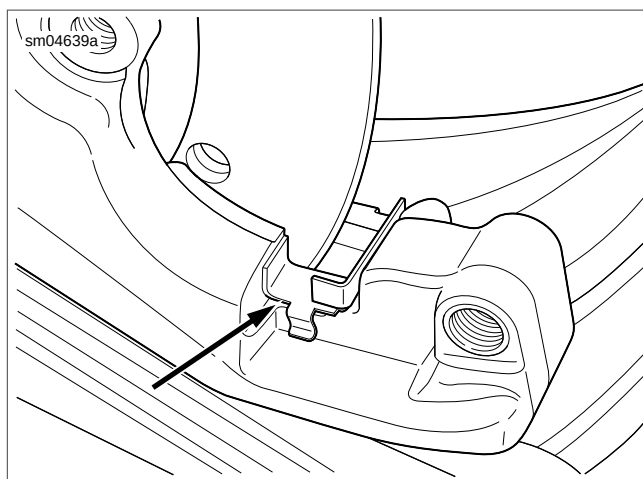

Figure 1-32. Torque Clip
9. See Figure 1-32. Inspect torque clip. Replace if worn or damaged.